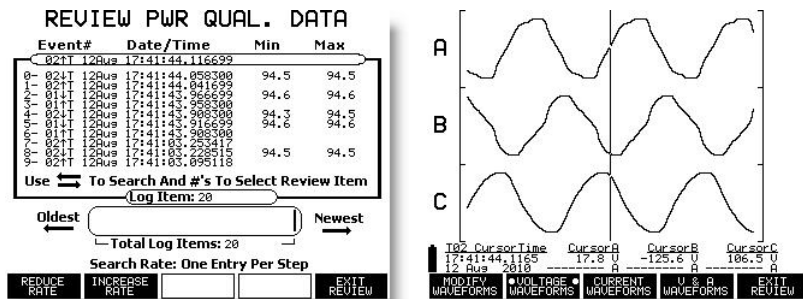

Figure 5.8: Selecting and Viewing Power Quality Records
1. Press the REVIEW key and select the SHOW PWR QUAL soft key. A list of any power-quality event records will appear in the display, if the 933A has captured any (see Figure 5.8, left screen).
2. Press the ENTER key, or any numeric key corresponding to the record number in the list, to view the waveform record at the time of the event (see Figure 5.8, right screen).
To view 1-second data logged at the time of the event (as viewed from Figure 5.8), press any of the numeric keys corresponding to the desired data type. Otherwise, you could press REVIEW > SHOW LOG > REVIEW SELECTIONS > SHOW EVENT LOGS. To use this effectively, you would need to know the time of the event to locate the record correctly.